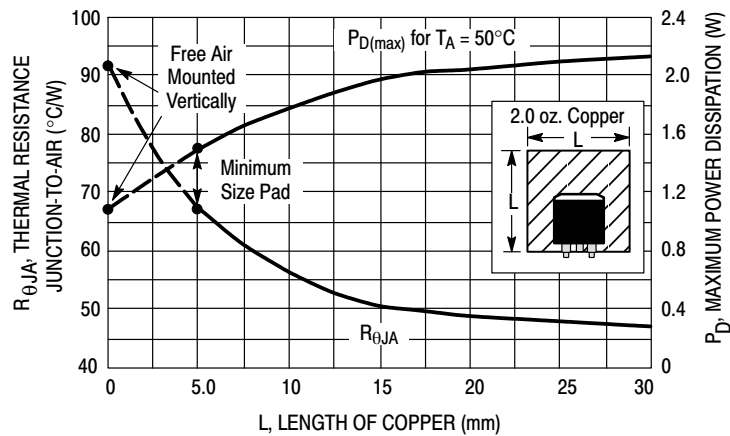

Figure 29. DPAK Thermal Resistance and Maximum Power Dissipation versus PCB Copper Length
6. The Junction-to-Ambient Thermal Resistance is determined by PCB copper area per Figure 29.